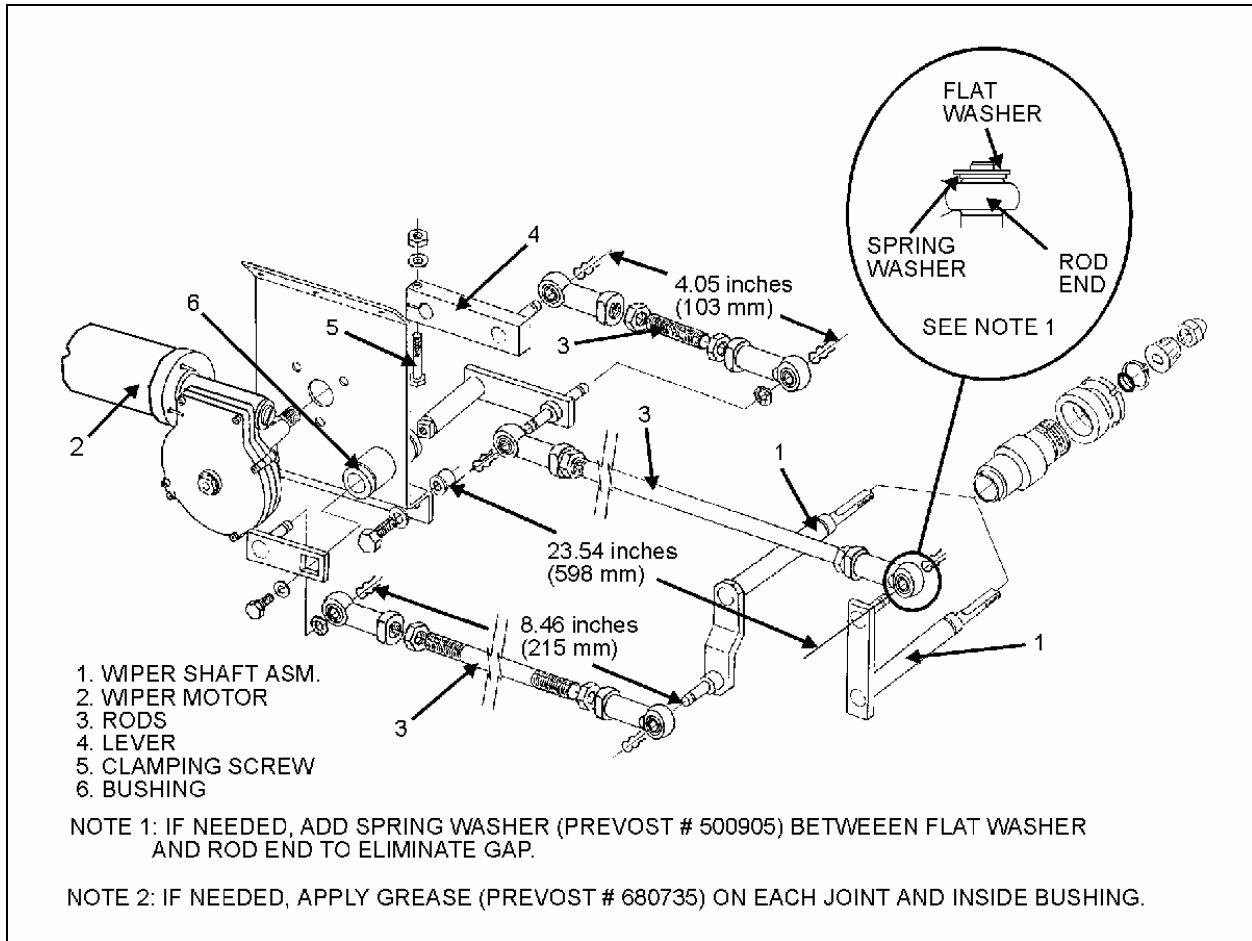

FIGURE 36: UPPER WINDSHIELD WIPER INSTALLATION
2. Adjust rods length (Fig. 36).
7. Loosen the bolt retaining the lever at the end of the motor driving shaft (Fig. 36).